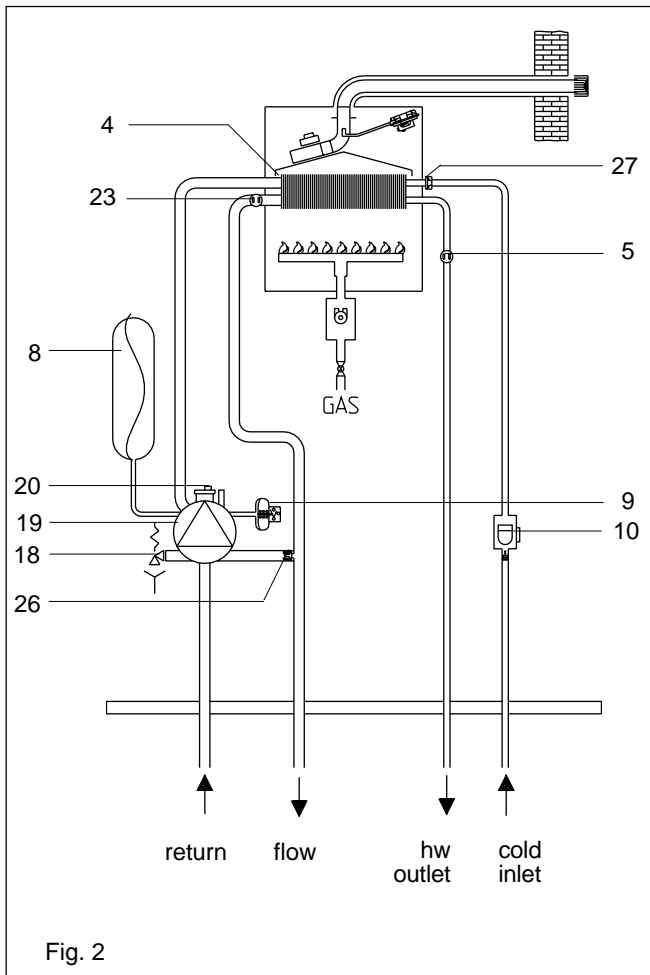

Fig. 2
- 27 Auto by pass (fig. 2)
- 28 Water flow restrictor (fig. 2)